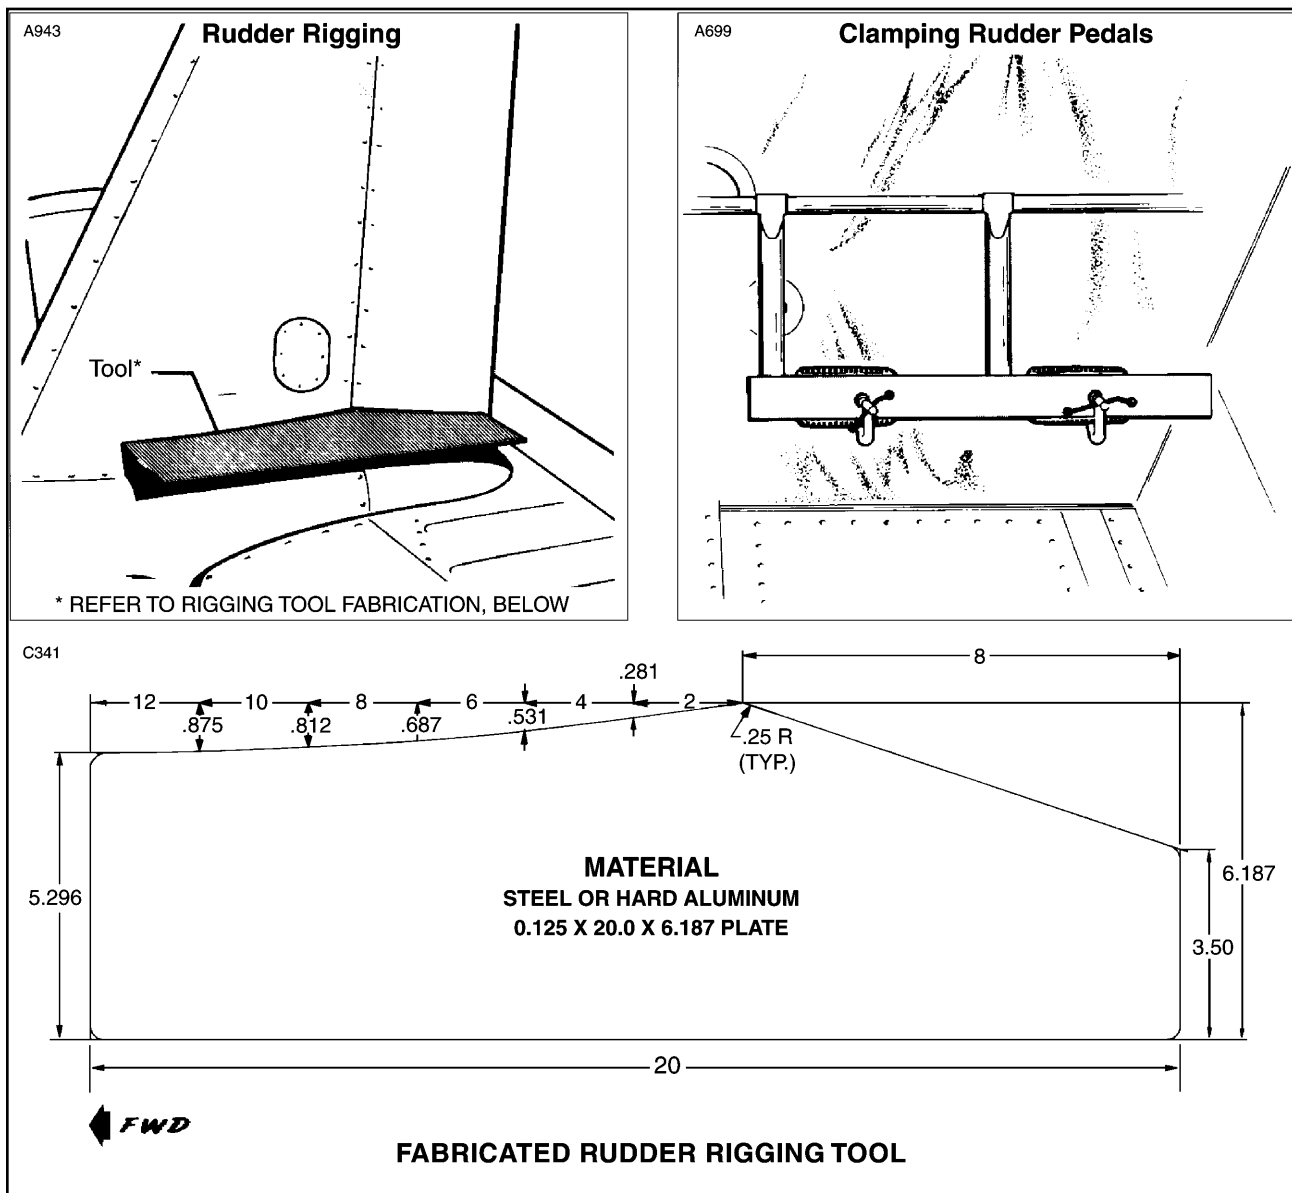

Figure 5-13. Rudder Rigging Tool Application and Fabrication
2. With the rudder against its stop, place a rigging tool against the side of the rudder and vertical stabilizer as shown in Figure 5-13. (Ascertain that the tool is not contacting any rivets.) If no gap exists between the rigging tool and the surface of the rudder and vertical stabilizer, the rudder stop for one direction of travel is correct as required in Table V-II. (This tool may be fabricated from dimensions given in Figure 5-5.)
3. Clamp the rudder pedals to align in a lateral position as shown in Figure 5-13.